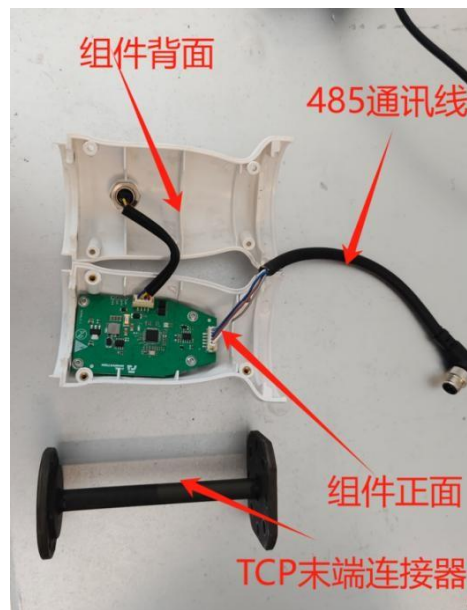

Figure 1.3 Smart Tool Disassembled View
2. After disassembly, as shown in Figure 1.3, the disassembled Smart Tool components include the front and back of the outer shell, an RS-485 communication cable, and a TCP end connector.